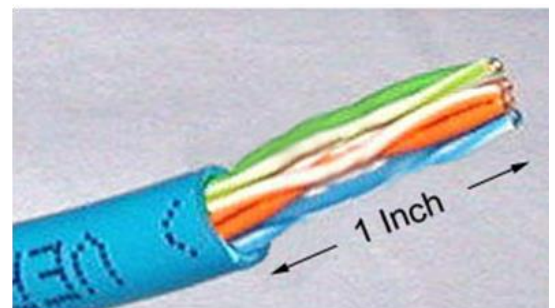

Figure 1 Cut cable end and leave 1 inch
Step 1: Use the crimping tool to cut into the Ethernet cable plastic sheath about 1 inch (2.5 cm) from the end of the cut cable (Figure 1).